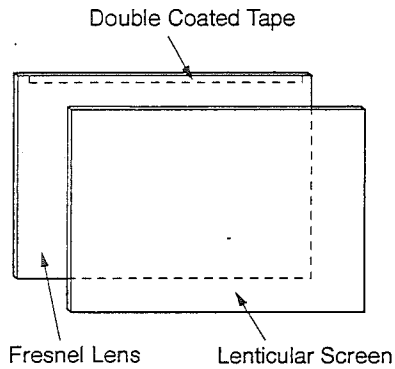

Fig. 4-2
Warm the connection portion between the Lenticular Screen and Fresnel Lens with a dryer etc. and remove the Double Coated Tape. (Fig. 4-2)
1. Join the Lenticular Screen and Fresnel Lens together by applying a Double Coated Tape. (Fig. 4-2)